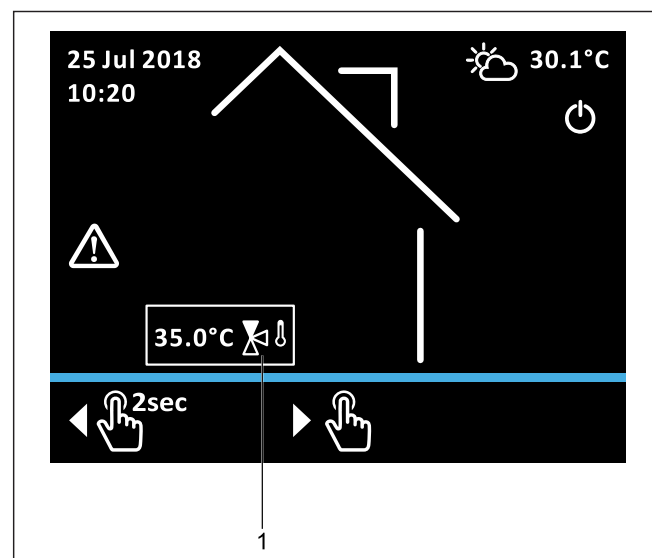

Fig. 9-3 Mixer module start screen
The start screen for the mixer module (Fig. 9-3) is a reduced version of the RoCon+ HP start screen. The meaning of the icons is the same Tab. 3-3, but the mixer temperature is the only system temperature displayed (Fig. 9-3, item 1).